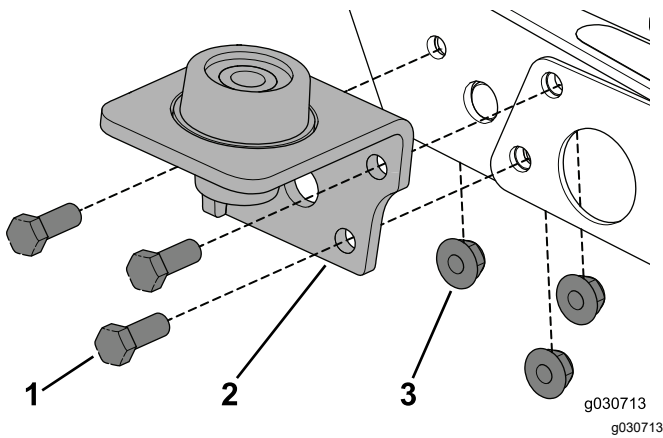

Figure 18
- Remove the existing hardware and use the 3 bolts (3/8 x 1 inch) and flange nuts to secure the mount to the machine (Figure 18).